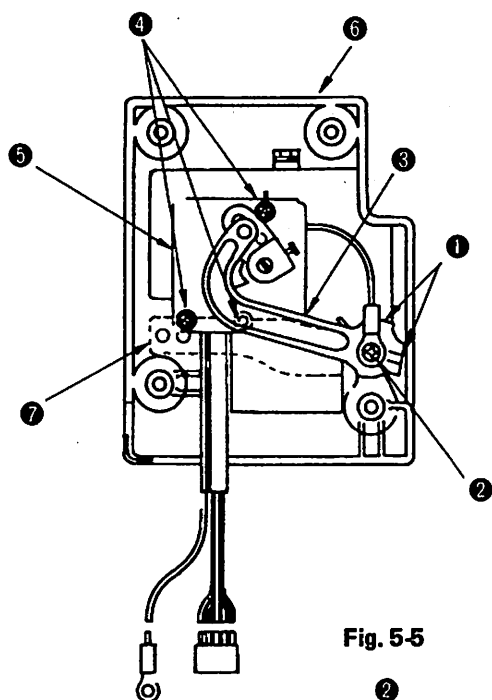

Fig. 5-5
6) Loosen the two pedal link setscrews (Fig. 5-5 ①) with an L type hexagon wrench. Then, remove the pedal FG cord setscrew (Fig. 5-5 ②) and remove the pedal link (Fig. 5-5 ③). (Do not remove pedal lever ⑦).
7) Remove the three sensor potentiometer setscrews (Fig. 5-5 ④), then remove the sensor potentiometer set (Fig. 5-5 ⑤).
11) Install the sensor potentiometer set in the pedal sensor mount (Fig. 5-5 ⑥) with the four setscrews (Fig. 5-5 ④).